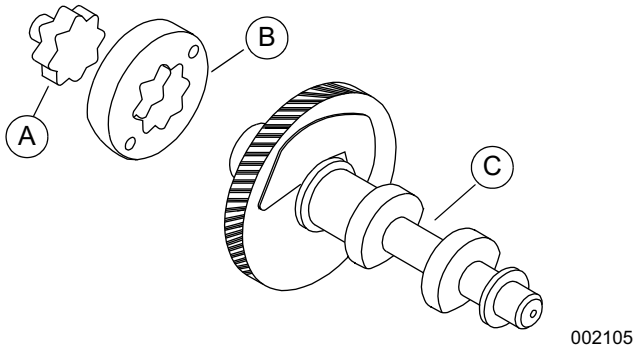

Figure 9-3. Oil Pump
See Figure 9-3. The oil pump is a trochoid type. The inner rotor (A) rotates on a shaft provided in the camshaft bore of the crankcase cover. The outer rotor (B) is installed over two drive pins on the end of the camshaft (C) and is driven by camshaft rotation.